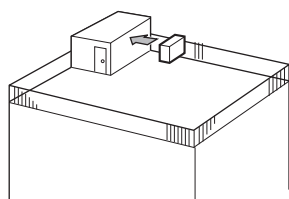

Fig. 4-21
- ① Face the air outlet towards the nearest available wall about 35 cm away from the wall. (Fig. 4-21)